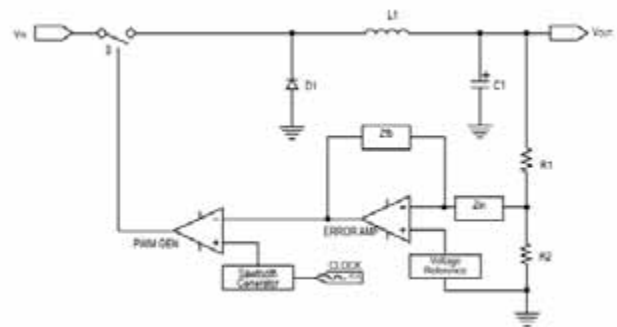

Figure 4: A Buck Converter
From the above equations, it is easy to see that the output voltage of a buck converter is always lower than its input voltage, as the Duty Cycle (D) is always less than 1. Figure 4 illustrates the architecture of a buck regulator.